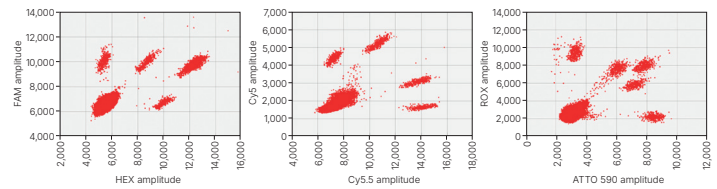
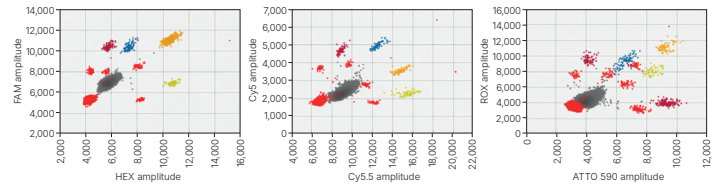
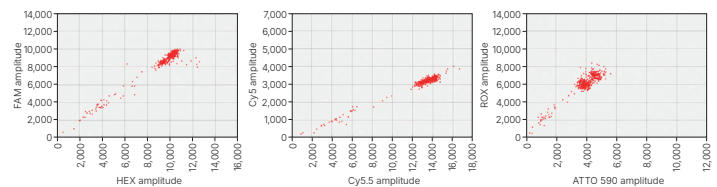

Fig. 9. 2-D plots for 24 overlaid wells with the Mutant Assay.
Fig. 10. 2-D plots for the Mutant Assay with shifted clusters. One well with shifted clusters (red) is excluded from analysis.
Fig. 11. 2-D plots for one well of the Mutant Assay with droplet shredding, which is excluded from analysis.
- Select all wells in which the Mutant Assay was run. Navigate to the 2D Amplitude tab and examine the wells for uniformity. See Figure 9 for an example of 2-D plots for 24 overlaid wells. Any wells with shifted clusters, streaks, or any unusual features should be excluded from analysis. Figure 10 shows an example of shifted clusters, where seven out of eight overlaid wells have the same cluster positions and the eighth well has different cluster positions compared to the other wells. Figure 11 shows 2-D plots from a well with a streak, which is indicative of shredded droplets.